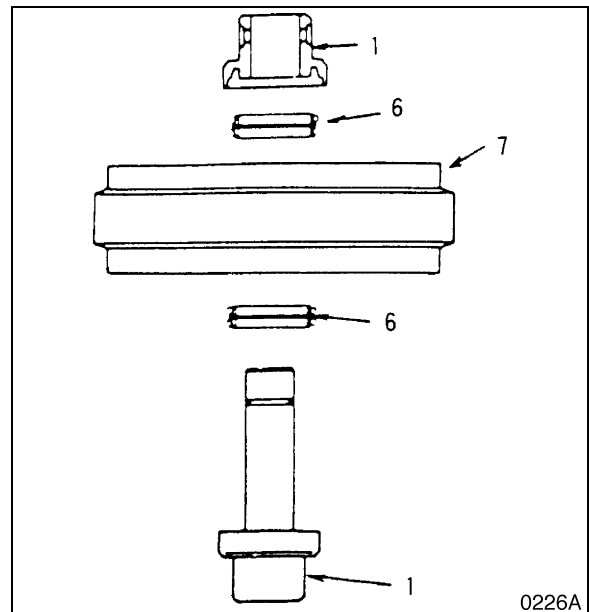

Figure 22
4. Detach the group seal (6, Figure 22) from the idler (7) and bearing (1).